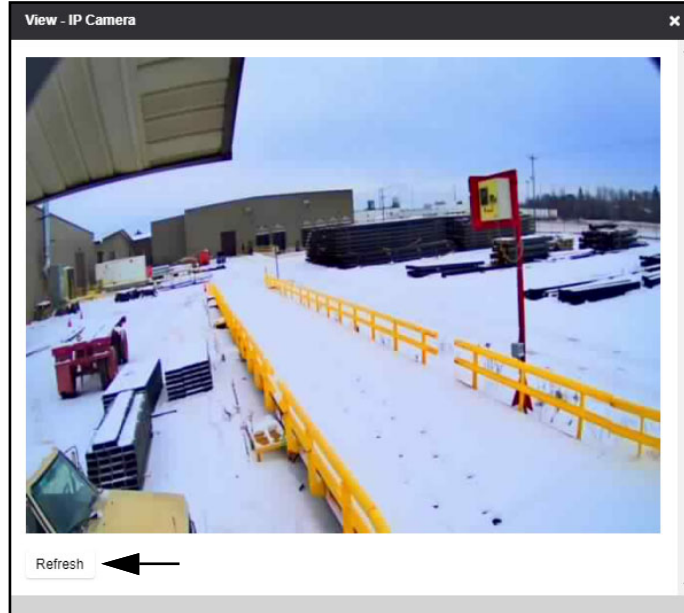

Figure 4-5. IP Camera Window
3. The IP Camera window displays (see Figure 4-5 on page 26).